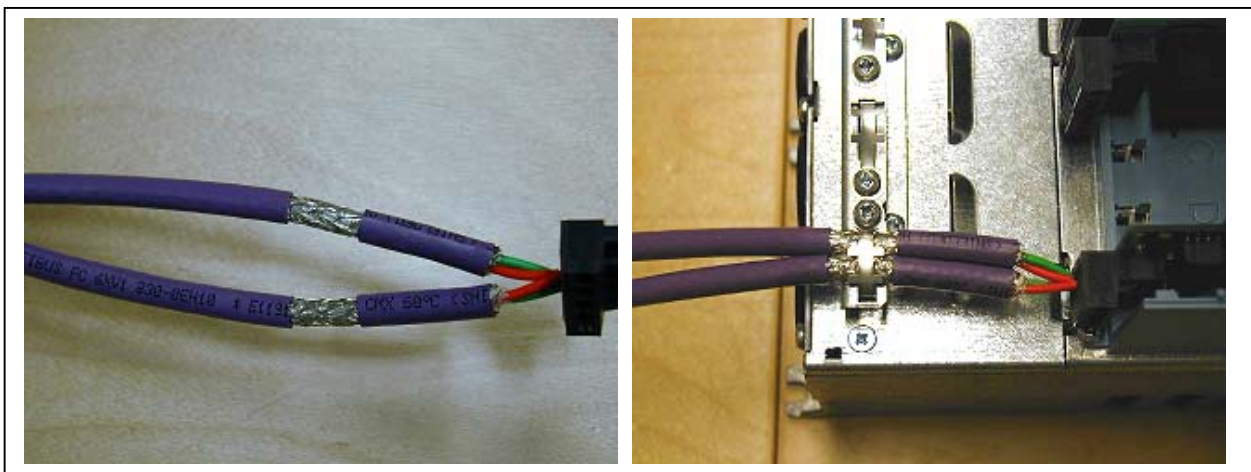

Figure 4-4.
- 1 Strip about 5 cm of the CanOpen cable in the same way as shown in Figure 4-4 but **cut off the grey cable shield**. Remember to do this for both bus cables (except for the last device).
- 4 Strip the CanOpen cable at such a distance from the terminal that you can fix it to the frame with the grounding clamp. See Figure 4-4. **Error! Reference source not found.**